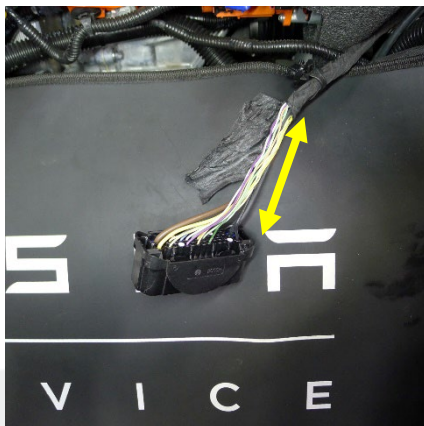

Figure 9
11. Unwrap and remove the electrical tape from the electrical harness for a distance of 150 mm from connector X151 (Figure 9).